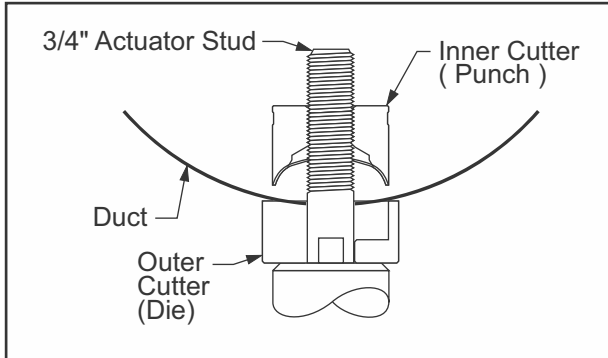

Fig. 32: 60mm Hydraulic Punch Configuration
5. Install Fab-Tech Flange: Remove backing and apply die-cut Gortex[®] gasket to the inside flange of the fitting. Place the fitting in the swaged hole from inside the duct so that the gasket forms a seal between the inside flange and the duct. Thread the matching split locking ring onto the fitting and tighten until snug. Using the appropriate size wrench on the locking ring and the flats on the fitting, tighten the locking ring until there is resistance to further tightening. Installation is complete. (Fig. 32)